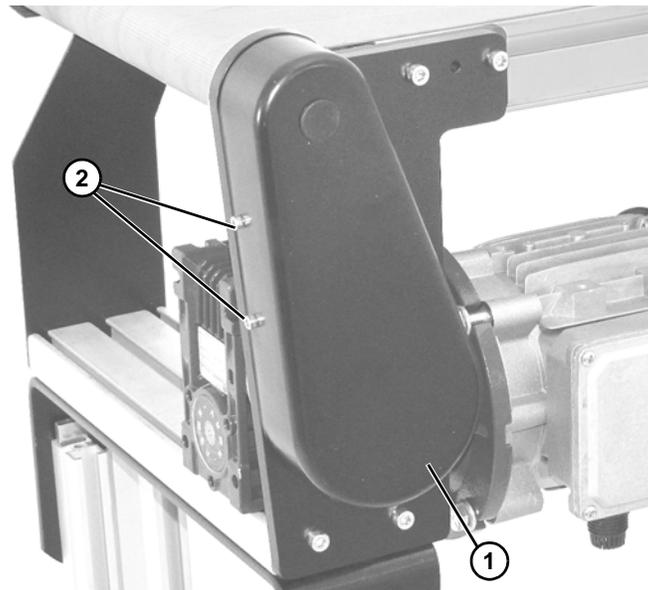

Figure 18
13. Install cover (Figure 18, item 1) with four screws (Figure 18, item 2). Tighten to 35 in-lb (4 Nm).
1. Remove four (4) screws (**Figure 18, item 2**) and remove cover (**Figure 18, item 1**).
4. Install cover (**Figure 18, item 1**) with four (4) screws (**Figure 18, item 2**). Tighten to 35 in-lb (4 Nm).
6. Install cover (**Figure 18, item 1**) with four (4) screws (**Figure 18, item 2**). Tighten to 35 in-lb (4 Nm).